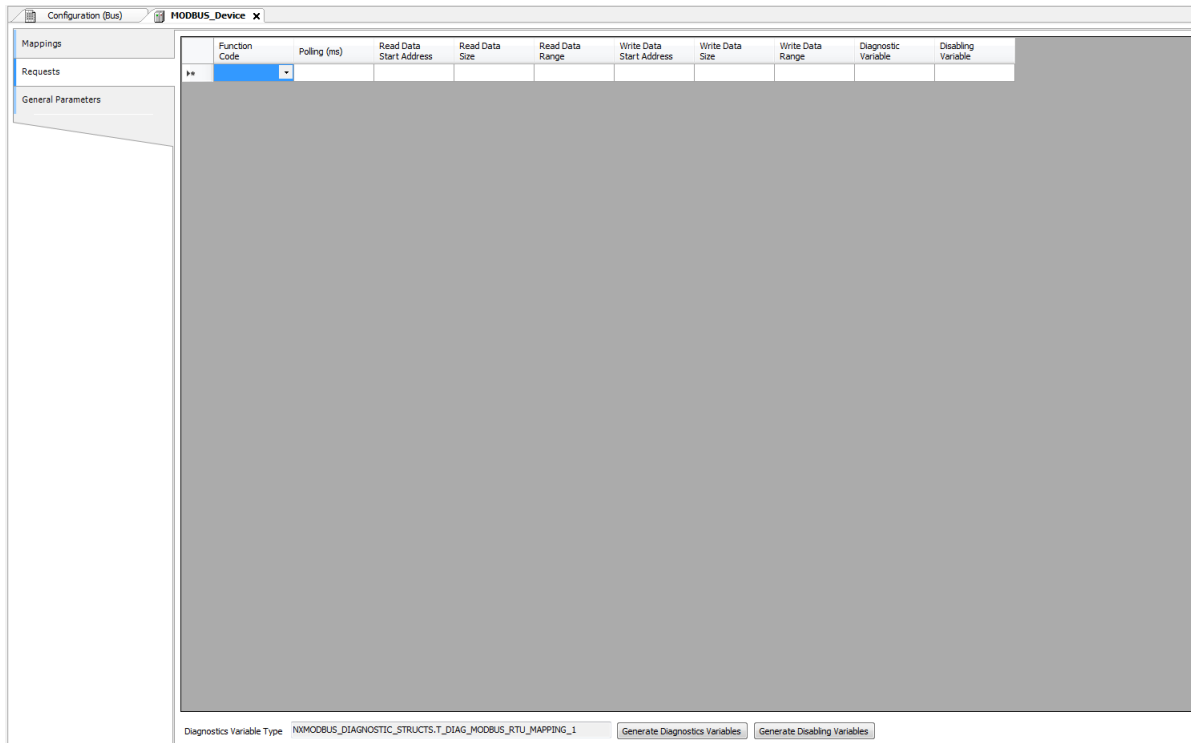

Figure 49: Data Requests Screen MODBUS Master
- Add and configure the MODBUS requests as presented in Figure 49, specifying the function, the scan time of the request, the starting address (read/write), the data size (read/write) and generate diagnostic variables and disabling the request via the buttons at the bottom of the window.